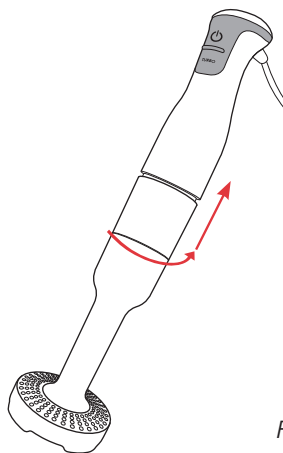

Figure 8
5. To detach the wand, twist the shaft in an anti clockwise position until the wand unscrews from the motor housing. See Figure 8.